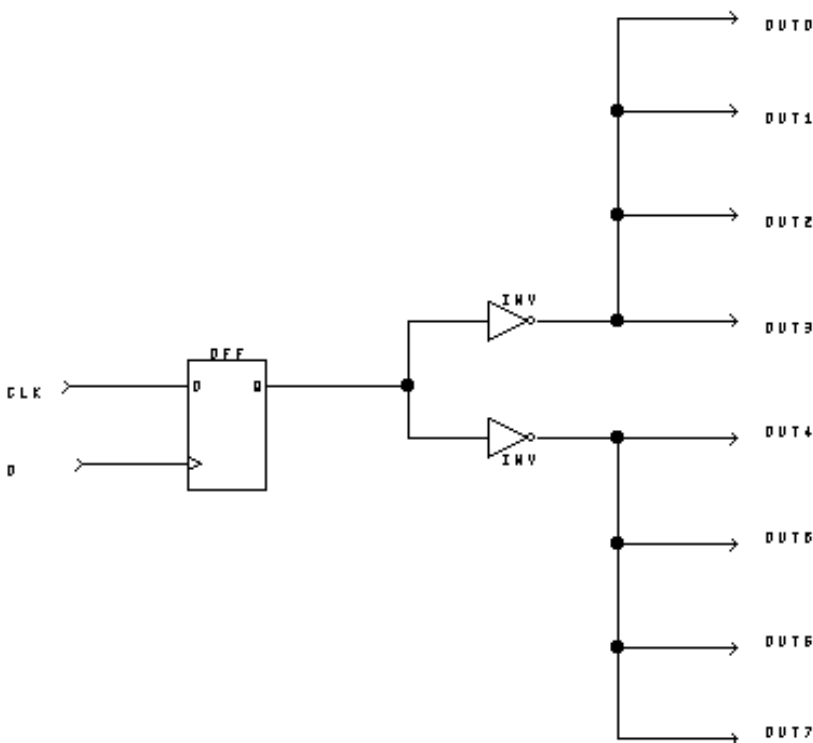

Figure 27 Circuit demonstrating split buffering
Figure 27 is an example of split buffering. Without the buffers, the DFF drives a fanout of 8. As configured in the illustration, the DFF drives a fanout of 2, and each buffer drives a fanout of 4.
**Note** – Adding buffers introduces a logic cell delay to the net. This added delay must be balanced against the gain in reducing the fanout. Simple split buffering (as demonstrated in Figure 27) is generally employed only with fanouts of 16 or greater.